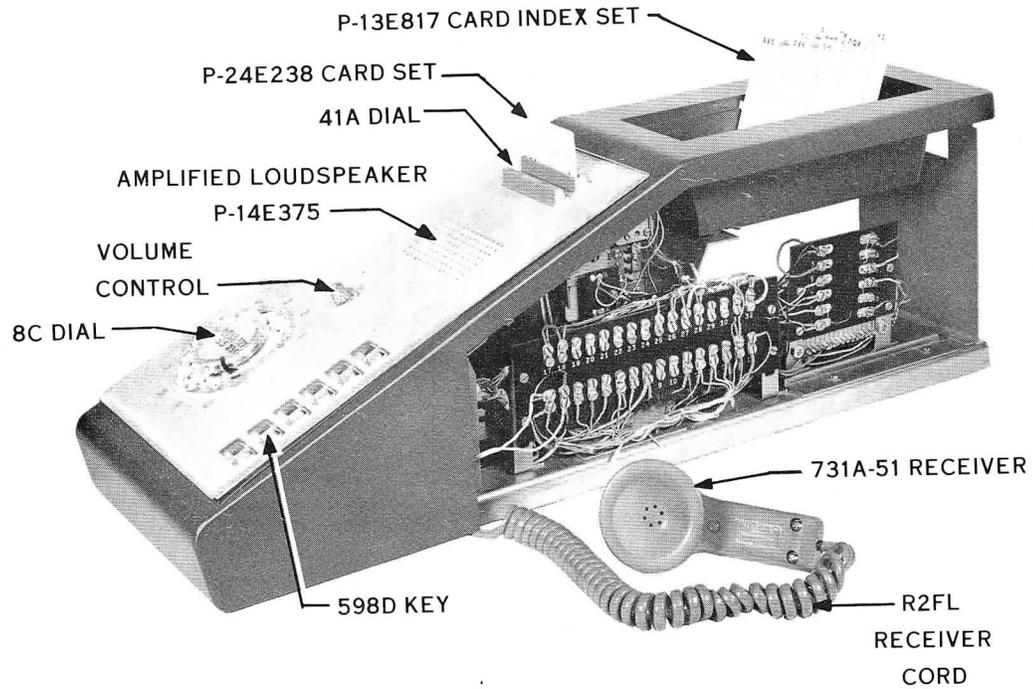

Fig. 7 - 689E Subscriber Set
2.07 This set (Fig. 7) combines the features of the 689A, 689C, and 689D subscriber sets.